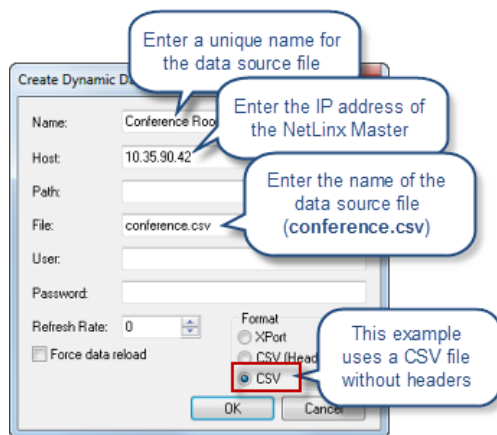

FIG. 163 Create Dynamic Data Source dialog with Example data (conference.csv)
1. Open the Resource Manager to the *Dynamic Data Sources* tab and click **New** to open the *Create Dynamic Data Source* dialog (FIG. 163):